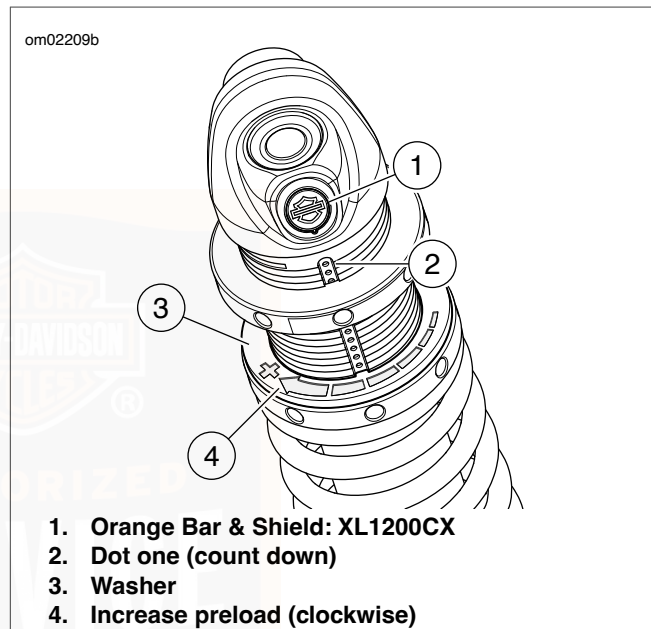

Figure 27. Preload Adjustment Arrow
- b. **XL1200CX:** See Figure 27. Identify the shock on the XL1200CX by the orange Harley-Davidson Bar & Shield (1) on the top of the shock.
See Figure 27. Rotate the lower adjustment ring clockwise (3) to increase preload. Rotate the lower adjustment ring counterclockwise to decrease preload.
See Figure 27. Count down from the top dot (2) on the shock dot scale to identify the recommended preload dot.
6. Rotate the upper locking ring to align with the recommended preload dot (3).
7. Cover one-half the recommended preload dot (4) with the upper locking ring.
8. Use the wrench to hand tighten the lower adjustment ring against the upper locking ring (5).